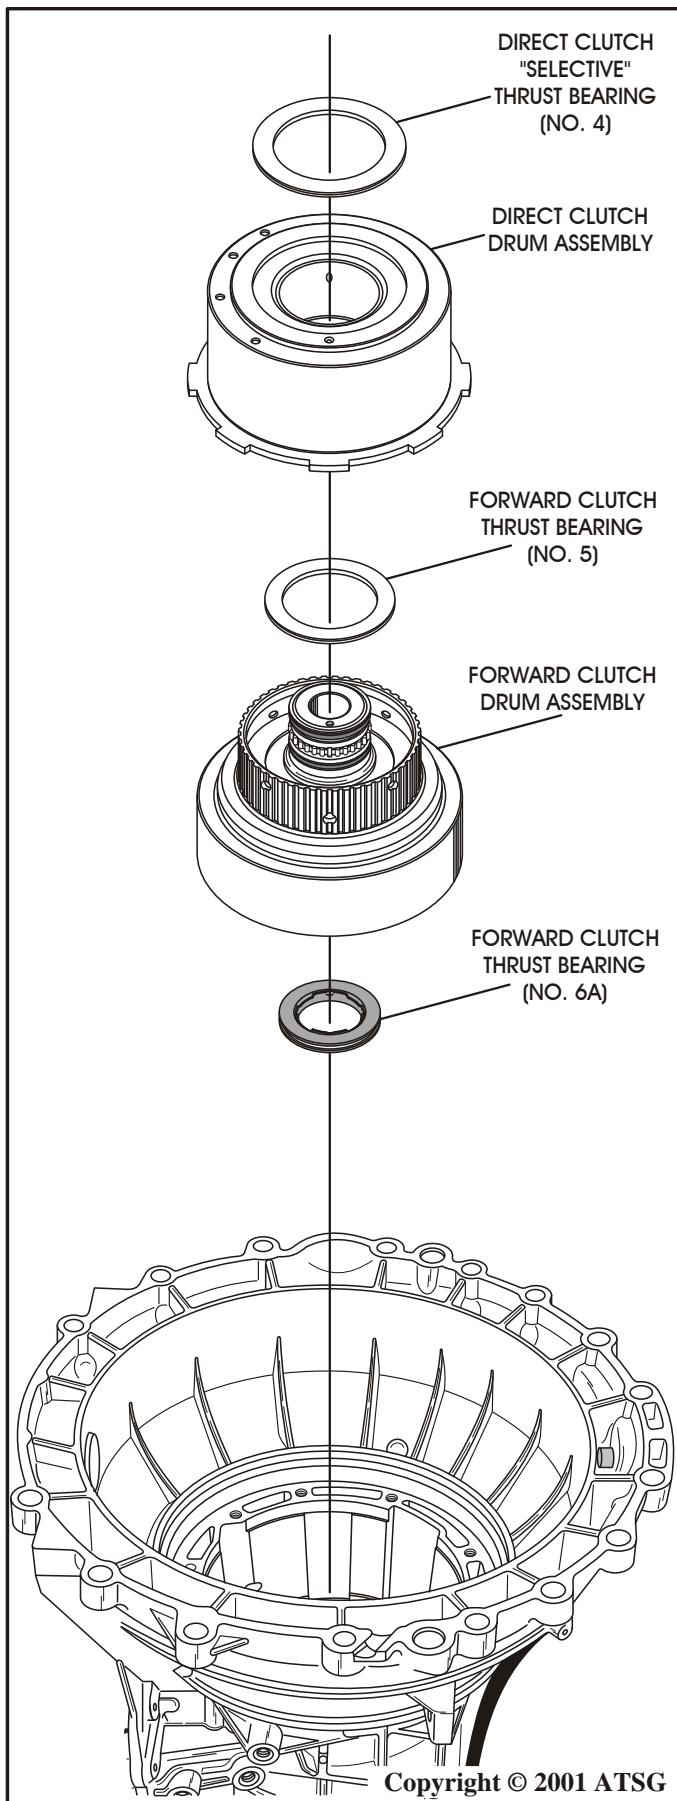

Figure 46
47. Remove and tag for I.D. direct clutch (No. 4) **selective** thrust bearing, as shown in Figure 46.
48. Remove the direct clutch housing assembly and set aside for component rebuild, as shown in Figure 46.
49. Remove and tag for I.D. forward clutch (No. 5) thrust bearing, as shown in Figure 46.
50. Remove the forward clutch housing assembly and set aside for component rebuild, as shown in Figure 46.
51. Remove and tag for I.D. the forward clutch (No. 6A) thrust bearing (See Figure 46).